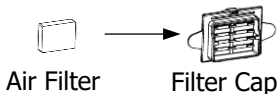

Fig. 18-4
- (1) Attach the air filter to the filter cap, as shown in Fig. 18-4.